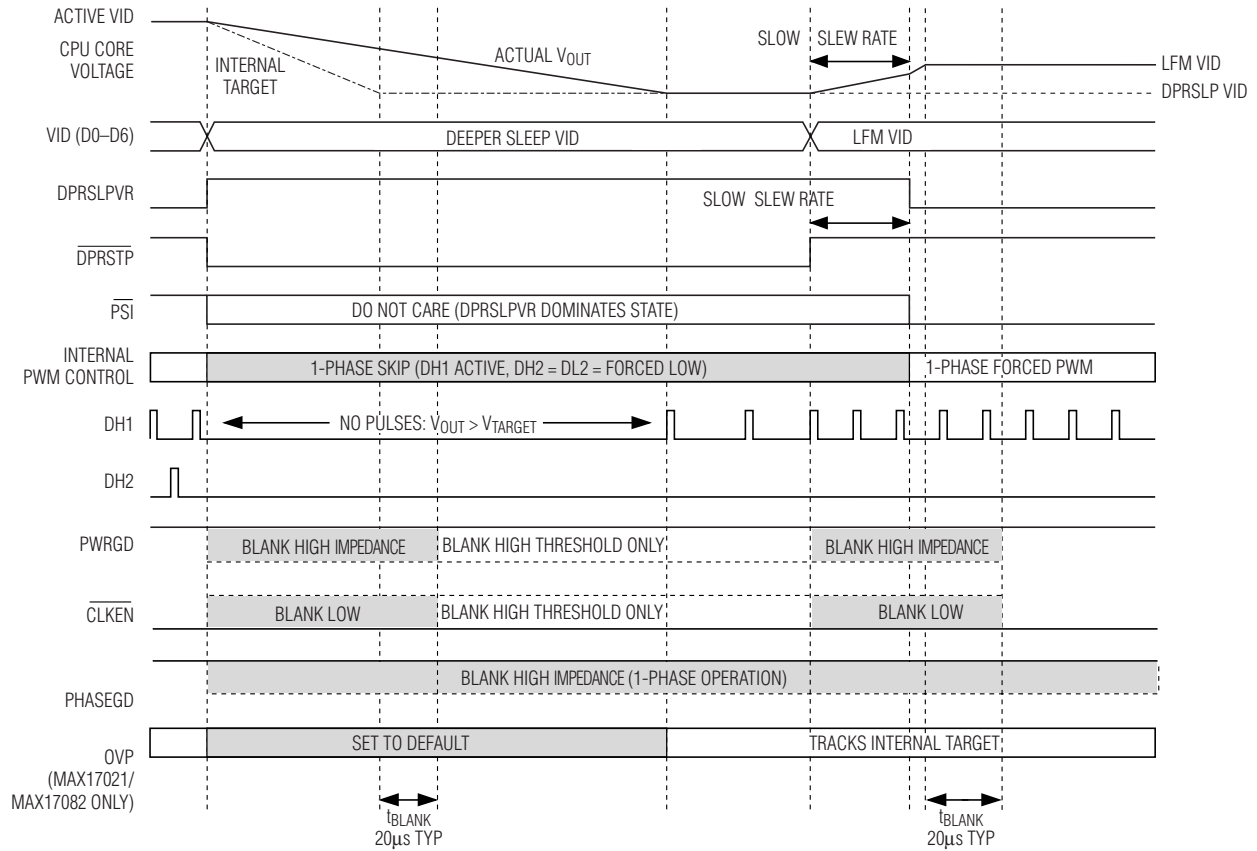

Figure 7. Slow C4 Transition
- IMVP-6+ Slow C4 Deeper Sleep Exit:** When exiting deeper sleep (DPRSLPVR high, $\overline{DPRSTP}$ pulled high) while the output voltage is regulating to the deeper sleep voltage, the MAX17021 remains in 1-phase skip mode and ramps the output voltage to the LFM DAC code provided by the processor at 1/4 the slew rate set by R_{TIME} . The controller blanks PWRGD, PHASEGD, and CLKEN until 20 μ s after the transition is completed. See Figure 7.